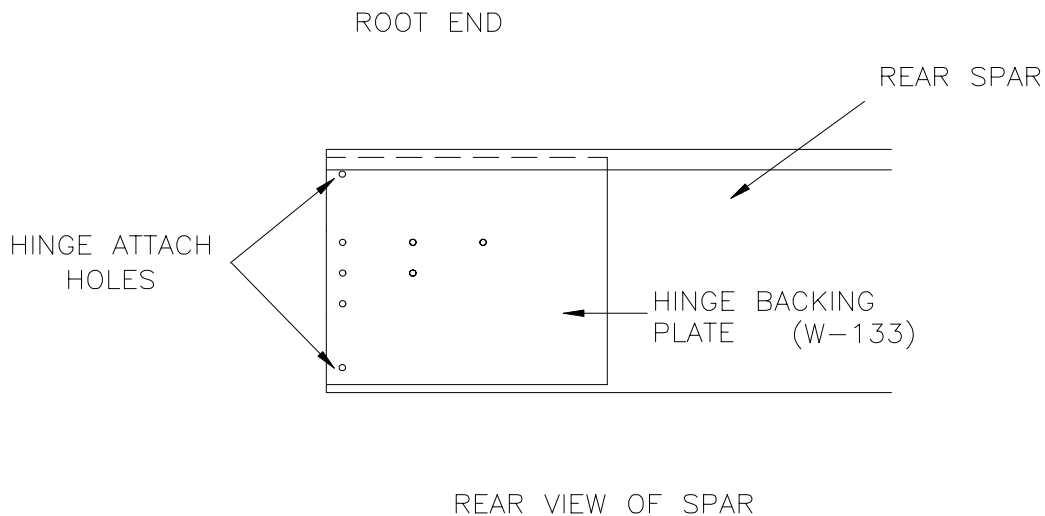

Figure 8.5.6
8) At the root position of the Rear Spar, position the fourth Hinge Backing Plate. Back drill through the Rear Spar into the Backing Plate #40 holes. Cleco as you go. Figure 8.5.6.